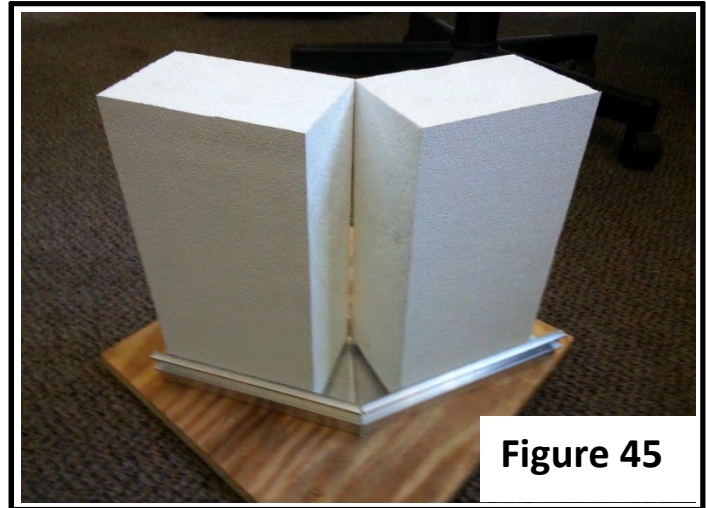

Figure 45
16. Variable angled corners (other than 90 degree) do require solid fill in the corners. **(Figure 45)**